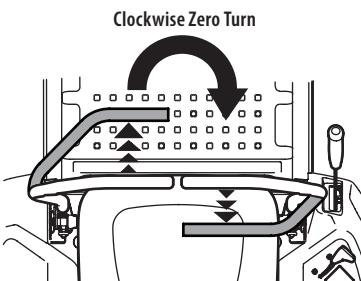

Figure 28
- To turn clockwise, move the left lapbar drive control lever forward while simultaneously moving the right lapbar drive control lever rearward (Figure 28).